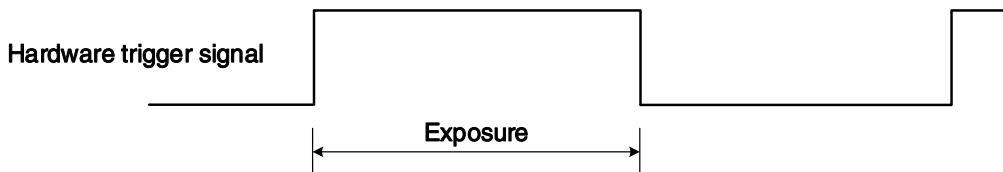

Figure 8-25 The sequence diagram in rising edge trigger of TriggerWidth exposure mode
- If rising edge triggering is enabled, exposure starts when the trigger signal rises and continues until the trigger signal falls, as shown in Figure 8-25